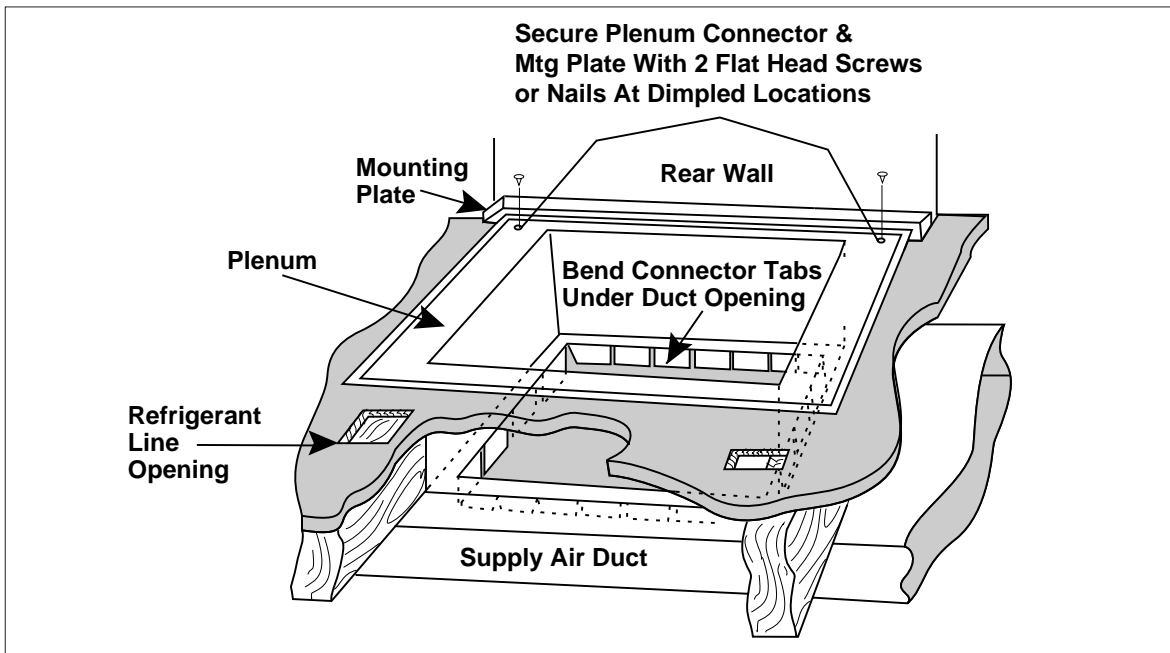

Figure 8. Plenum Connector
4. Secure plenum connector to floor with two flat-head fasteners at dimpled locations (see Figure 8).